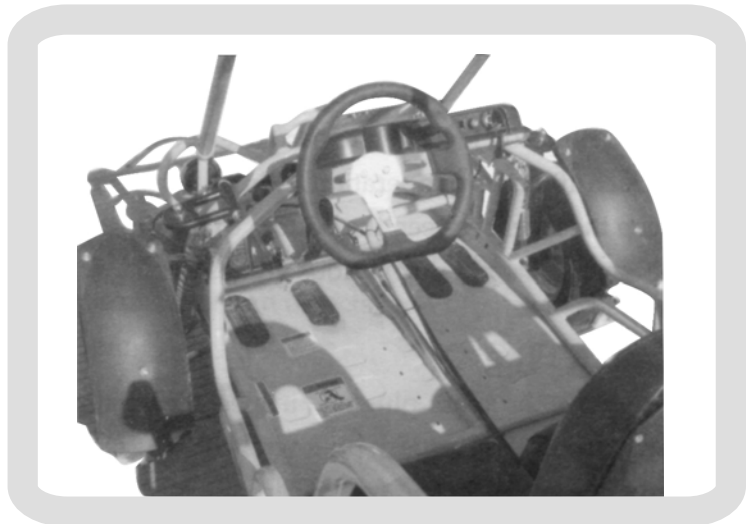

Figure 4 Heels and legs position by driving the kart
- d. The turning radius of this kart is small and agile, so the centrifugal force is very high when turning at high speed. Slow down to a more controllable speed when turning to prevent the kart from rolling over. The driver should keep their heels on the ramp of the main board when turning. Keeping their legs on the foot pedal (See Fig.4), the driver can feel that the kart is stable and won't roll over.